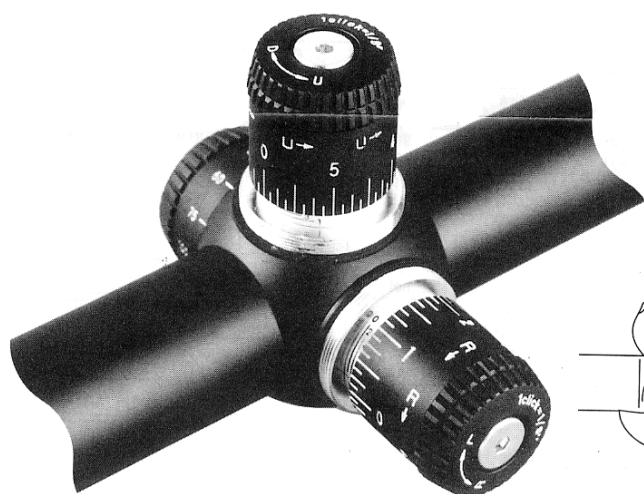

Fig. 3-8
- For the BUCKMASTERS Riflescope 6-18x40 SF adjustment is made by turning the grip by hand. If the bullet hits under the aiming point, turn the grip in the direction of the arrow marked “U” (Fig. 3-8). If the bullet hits to the left of the aiming point, turn the grip in the direction of the arrow marked “R” (Fig. 3-8).